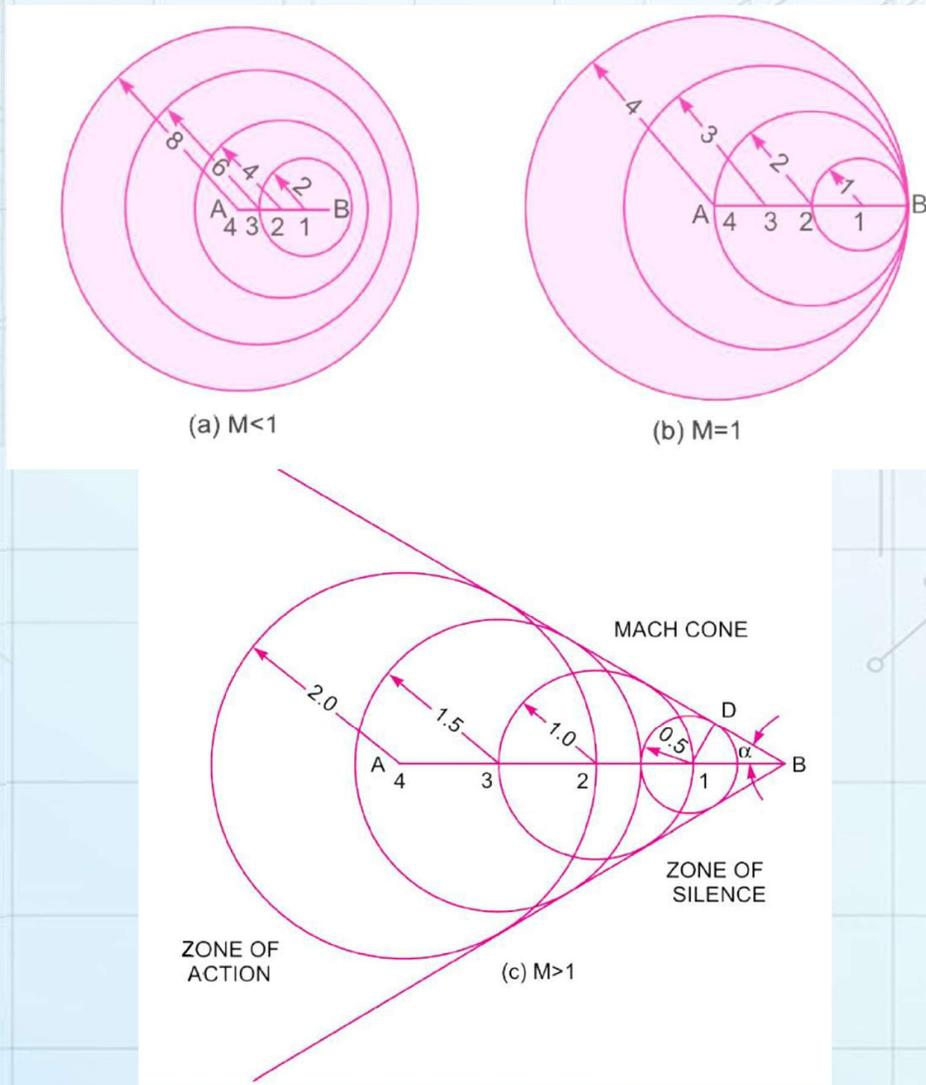

Fig.6.2 – Nature of propagation of disturbances in compressible flow
- ▶ When some disturbance is created in a compressible fluid (elastic or pressure waves are also generated), it is propagated in all directions with **sonic velocity (C)** and its nature of propagation depends upon the Mach number (*M*).
- ▶ Consider a tiny projectile moving in a straight line with **velocity (V)** through a compressible fluid which is stationary.
- ▶ Let the projectile is at 'A' when time $t = 0$, then in time ' t ' it will move through a distance $AB = Vt$. During this time the disturbance which originated from the projectile when it was at 'A' will grow into the surface of sphere of radius ' Ct ' as shown in Fig. 6.2, which also shows the growth of the other disturbances which will originate from the projectile at every ' $t/4$ ' interval of time as the projectile moves from *A* to *B*.
- ▶ The projectile moves from A to B in 4 seconds and hence the distance $AB = 4 \times V = 4 \times 1 = 4$ units. The disturbance created at A in 4 seconds will move a distance $= 4 \times C = 4 \times 2 = 8$ units in all directions. Hence taking A as a centre and radius equal to 8 units, a circle is drawn. This circle gives position of disturbance after after 4 seconds. When the projectile is at point 3, it will reach B in three seconds and distance $3B = 3 \times V = 3 \times 1 = 3$ units. But the disturbance created at point 3 in three seconds will move a distance having a radius $= 3 \times C = 3 \times 2 = 6$ units. Similarly at point 2, the disturbance will have a radius $= 2 \times C = 2 \times 2 = 4$ units and at point 1, the disturbance will have radius $= 1 \times C = 1 \times 2 = 2$ units as shown in Fig. 6.2 (a).
- ▶ Let the projectile moves from A to B in 4 seconds. The disturbance created at A in 4 seconds will move a distance having radius = $4 \times C = 4 \times 1 = 4$ units in all directions. The projectile from point 3 will move to position B in three seconds and the disturbance created three will move a distance having a radius = $3 \times C = 3 \times 1 = 3$ units in all directions. Similarly at point 2 and point 1, the disturbance created at these points will move a distance having radius 2 and 1 in all directions respectively as shown in Fig. 6.2 (b).
- ▶ In this case, the disturbance always travels with the projectile as shown in Fig. 6.2 (b).
at point 3, and distance $A3 = V \times 1 = 1 \times 1 = 1$ units. The projectile from point 3 will reach B in three seconds, the disturbance will have radius $3 \times C = 3 \times 0.5 = 1.5$ units and similarly the radius of disturbance at point 2 and 1 will be $2 \times C = 2 \times 0.5 = 1$ unit and $1 \times C = 1 \times 0.5 = 0.5$ unit respectively as shown in Fig. 6.2 (c).
- ▶ Let us consider two points, O in the free stream and the stagnation point S as shown in Fig. 6.2.